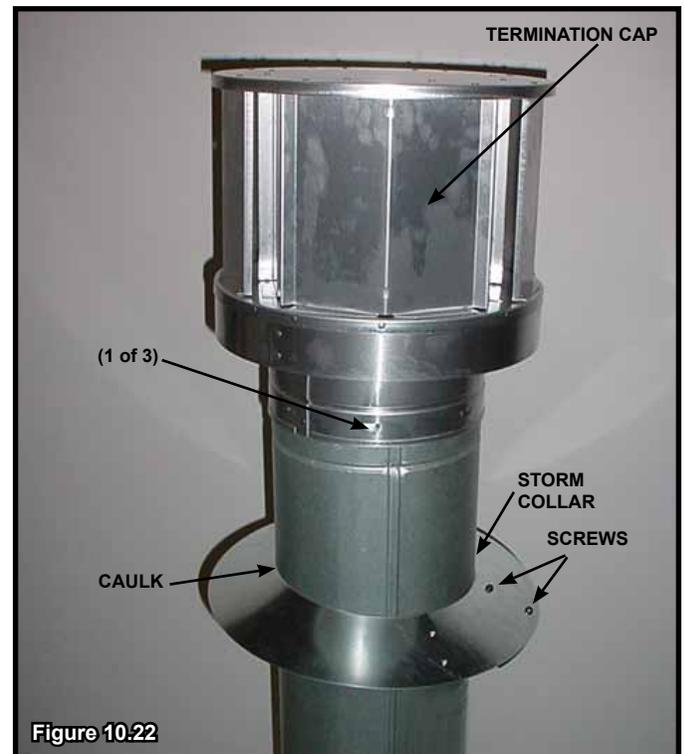

Figure 10.22
- Caulk around the top of the storm collar (see Figure 10.22).